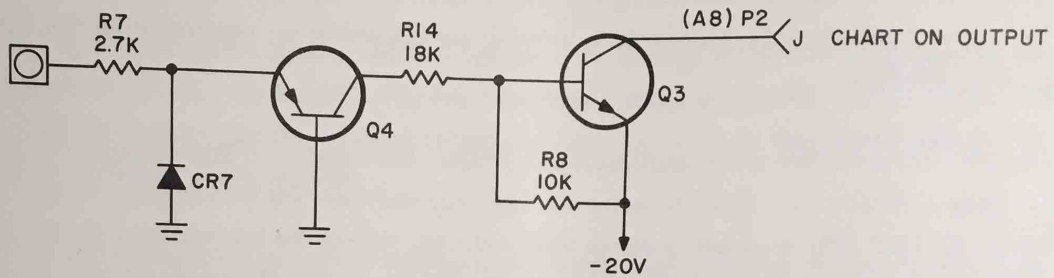

Figure 3.6. Chart Control Circuit
3.4.3.2 *Chart Control Circuit.* This circuit is designed to give the computer operator remote control of a strip chart recorder connected to the 580 Computer. See Figure 3.6 and Schematic D00 012 1615 0S for the description below. To activate the recorder it is necessary to patch a high to the CHT ON terminal. The high at the patch terminal turns tran-